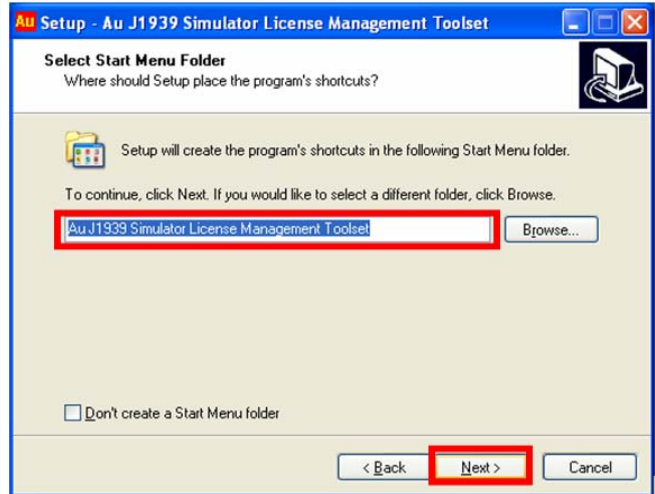

Figure C-5
5. "Select Start Menu Folder" window shows up, use default setting "AU J1939 Simulator License Management Toolset", then click "next" (Figure C-5)